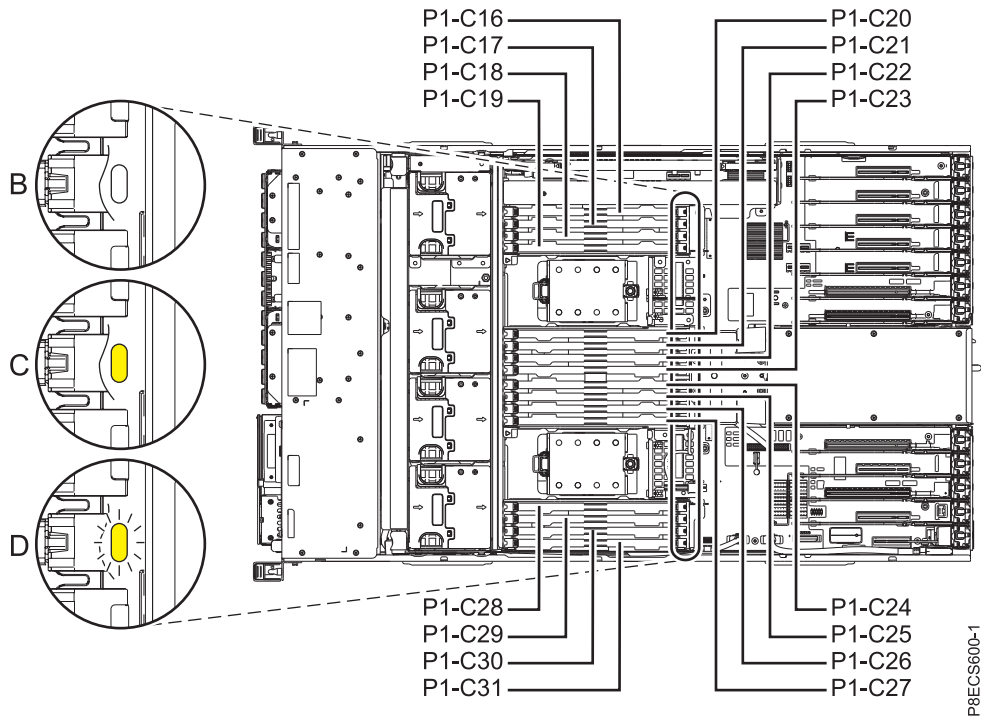

Figure 4. Locations for the memory modules and service indicators in the 8247-42L, 8286-41A, or 8286-42A system
1. If you are removing the memory module as part of another service procedure, go to step 3 on page 8. The memory module slots are on the system backplane. The memory module slots are visible after you have removed the service cover and the air baffle as instructed in this procedure. The labels on the system show the location codes for the memory modules. Figure 4 on page 8 shows the locations and service indicators for the memory module in the 8247-42L, 8286-41A, or 8286-42A system.